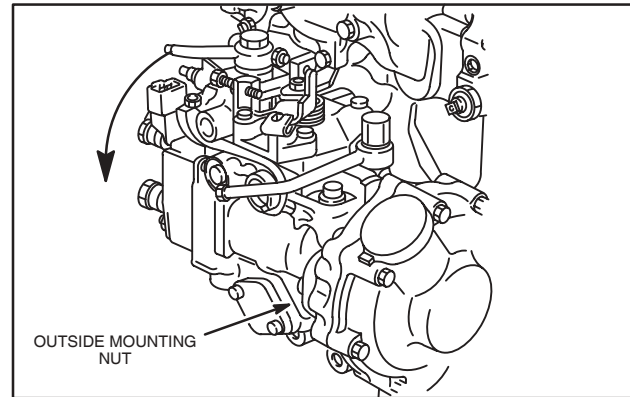

Fig. 9 – Adjusting Timing
- While observing dial indicator, slowly rotate injector pump away from cylinder head until indicator shows correct specification. Hold injector pump in this position and tighten outside pump mounting nut, Fig. 9.